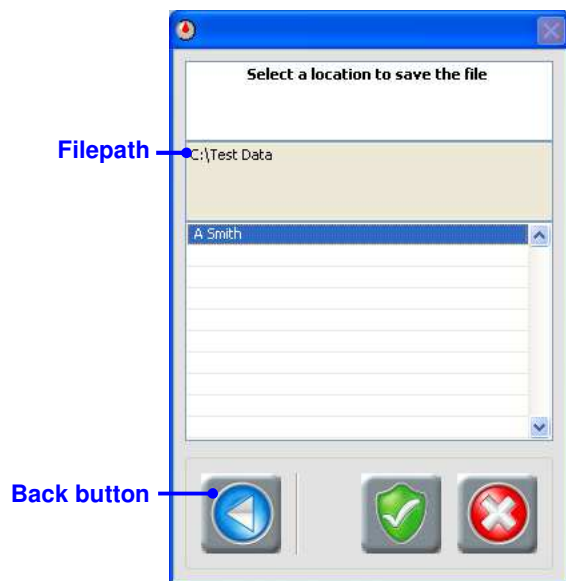

Fig. 6-22
- In the window that appears (Fig. 6-22), choose a location for saving the file.